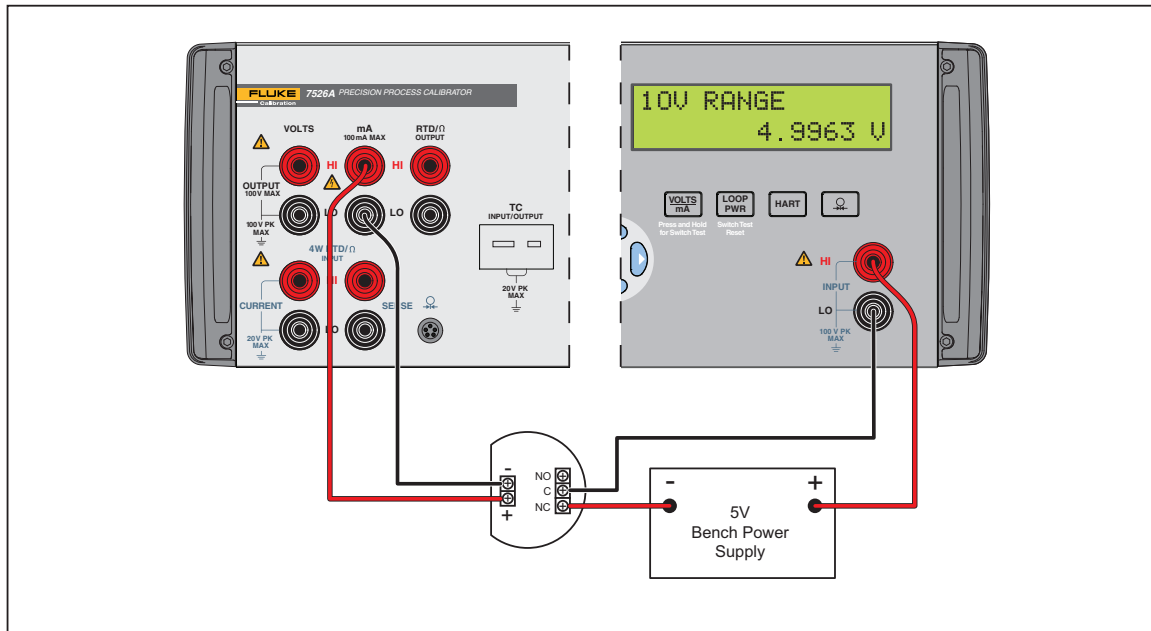

**Figure 4-8. RTD Indicator Application**
4. Connect the indicator as shown in Figure 4-8.